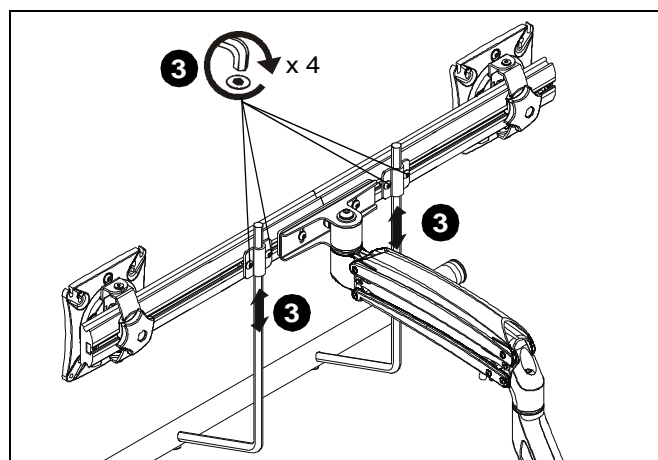

Figure 16
3. Position handle (J2) at desired height and secure by tightening button head cap screws attaching handle brackets to array. (See Figure 16)